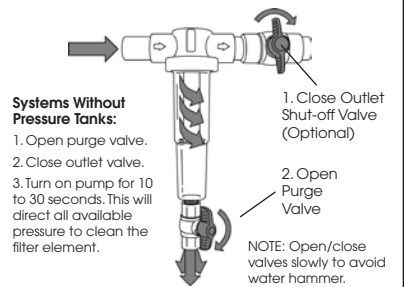

Fig 3. Cleaning the Filter.
8. Installation of a shut-off valve on the outlet side of the filter is recommended for more effective cleaning. (See Fig 3.)
1. **FLUSH CLEANING:** The primary method of cleaning the filter is flushing separated solids through the purge valve to a safe drain location by opening the purge valve while the filter is under system pressure. (See Fig 3.) The purging process can be automated with an Automatic Flush Valve (AFV)—consult your distributor for details.